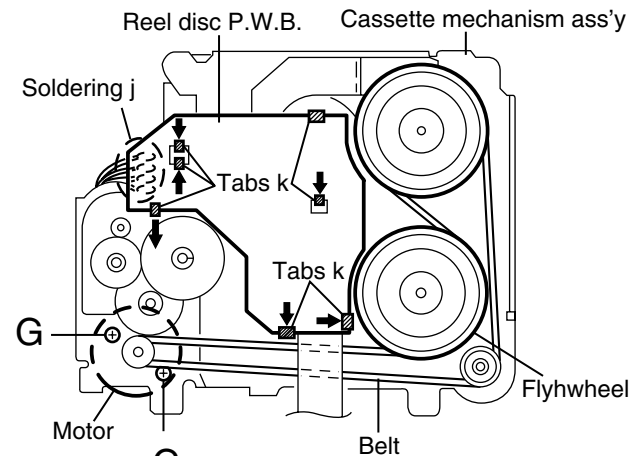

Fig.10
■ Removing the reel disc P.W.B. (See Fig.10)
■ Removing the motor and the sub motor (See Fig.10 and 11)